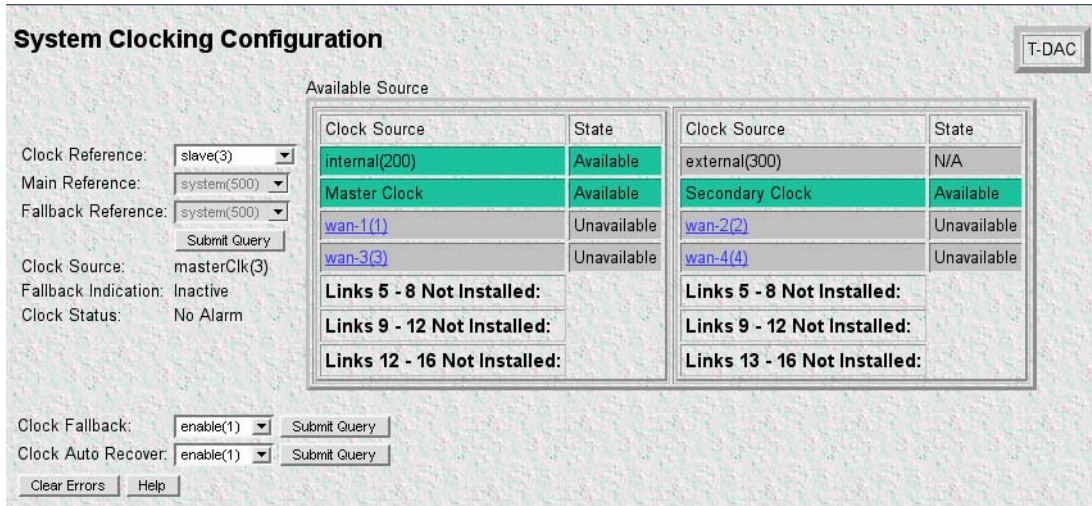

Figure 30. System Clocking Configuration page, example 2
- Click the *System Clocking* hyperlink on the *2616RC Configuration Menu* to open the *System Clocking Configuration* page (see figure 30).